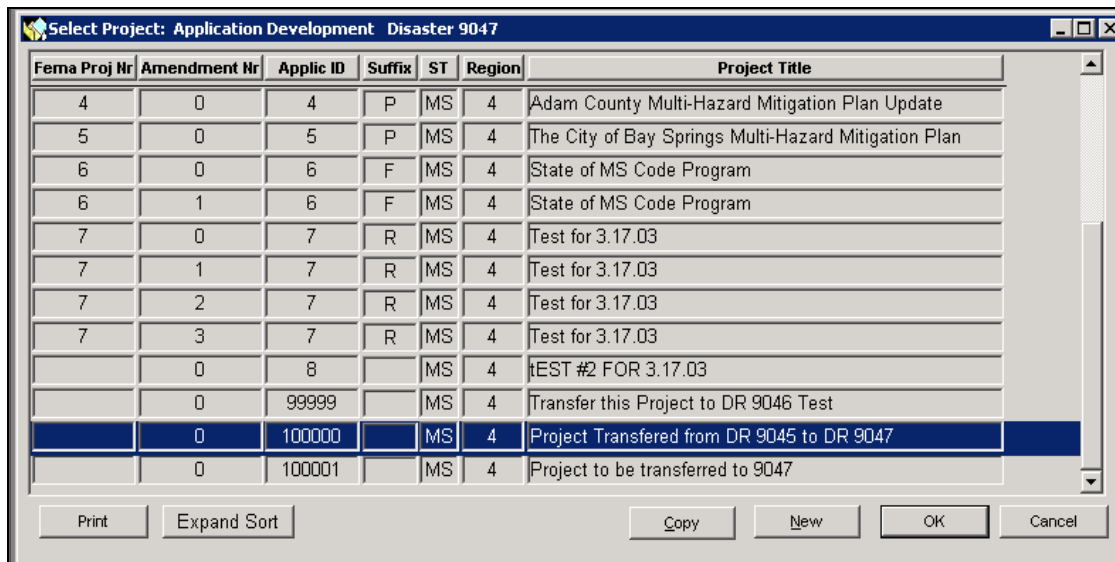

Figure 6-129: Select Project: Application Development Screen Showing Project Copied to the New Disaster
- The project will now appear in the Select Project: Application Development (Figure 6-129). Change the name of the project, add the Subrecipient plan information, complete the eligibility review and make any additional edits before submitting the project to federal eligibility.